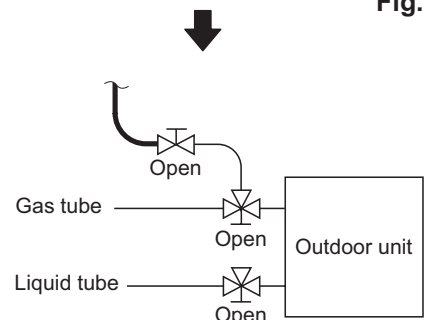

Fig. 1-43
- If the additional refrigerant charge amount cannot be charged at once, charge the remaining refrigerant in liquid form by using the gas tube service valve with the system in Cooling mode at the time of test run. (Fig. 1-43)